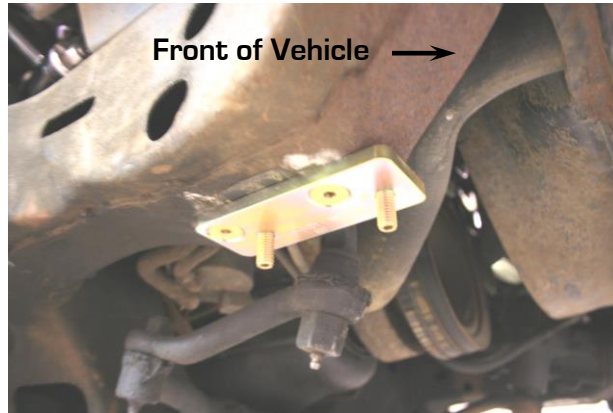

Figure 1 - Mounting the Adapter Plate
3. Place the provided frame adapter plates on the frame. The countersunk holes are used to mount the adapter plates to the frame. Thread the M10 x 1.50 x 20 Countersunk Socket Head Bolts into the frame using Medium Strength Loctite 242 and torque the bolts to 25 ft-lbs. **NOTE:** The plates are marked LH (driver side) and RH (passenger side) need to be positioned so that the studs are closest to the front bumper. Refer to Figure 1 below for reference.